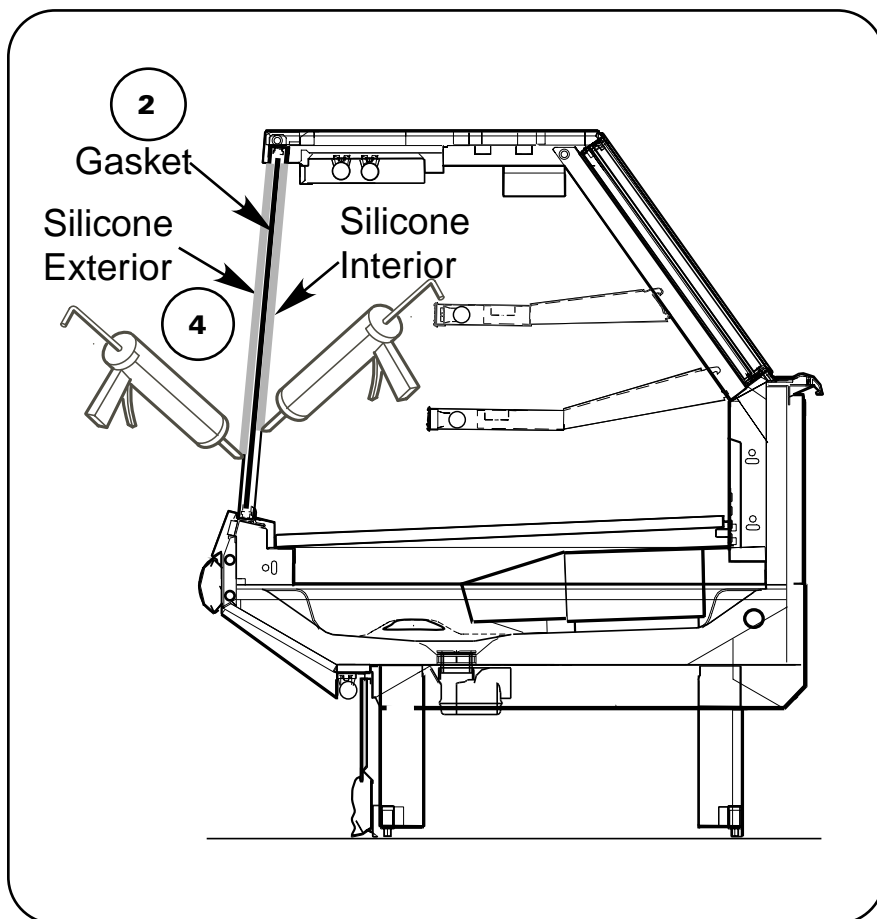

Figure 11. Front Lighting Rail Joining Plate
- 17** Apply a bead of **Silicone** (Item – 4) down and into the joint from the exterior and interior side of glass next to the **Gasket** (Item – 2). See **Figure 11** and **Figure 12** on next page.